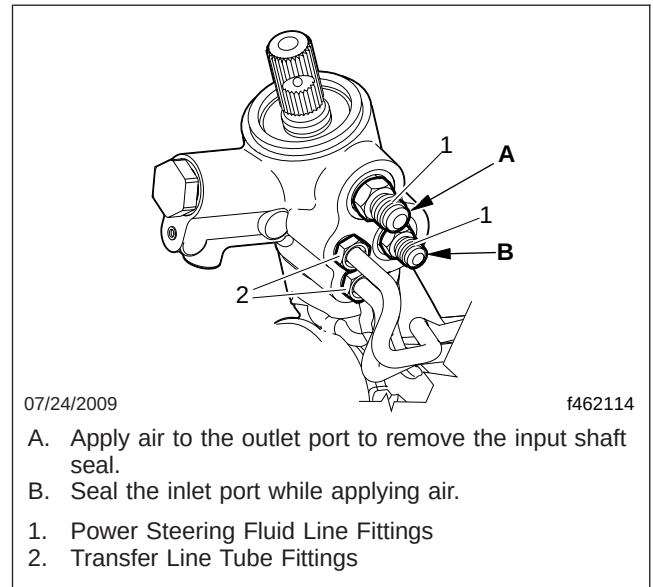

Fig. 1, Removal of the Input Shaft Seal
11. Wrap the input shaft and seal area with a clean cloth to prevent fluid spray when removing the seal, then remove the input shaft seal by blowing compressed air into the outlet port. See Fig. 1.